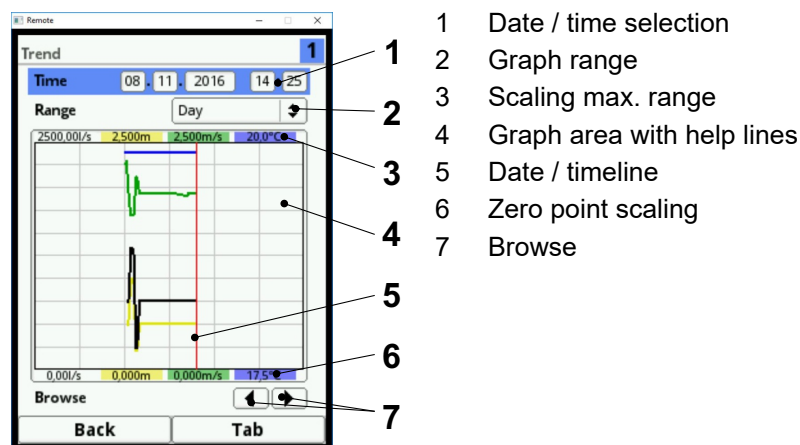

Fig. 24-2 Trend graph screen
The **Date/Time Selection** (Fig. 24-2 Pos. 1) can be found in the top area of the main screen. The line is highlighted blue and hence active.
5. Confirm your entry with the right function key. Date and time will be accepted. The readings are shown in the display depending on the date and the period selected (Fig. 24-2 Pos. 2). The vertical red line (Fig. 24-2 Pos. 5) marks the selected point of time (date and time).
➡ Modify the setting using the >Range< section (see Fig. 24-2 Pos. 2).